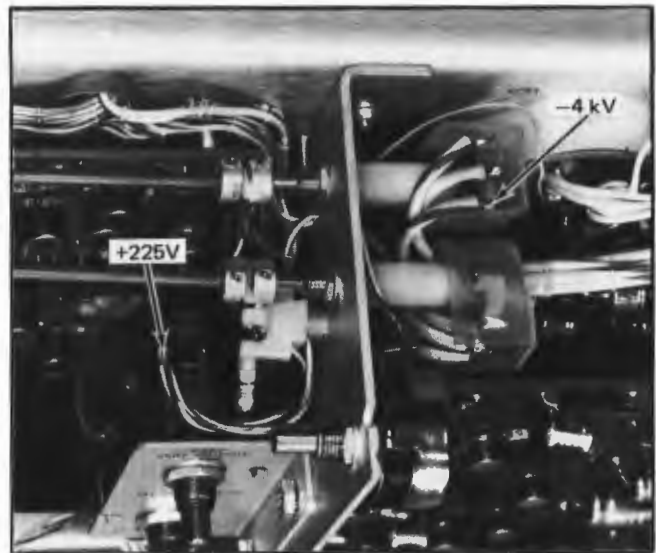

Fig. 5-3. Location of high voltage test points on right side of instrument.
f. Connect the positive lead of the meter to the arm of the INTENSITY control, R883 (see Fig. 5-3), connected to the white and purple wire.